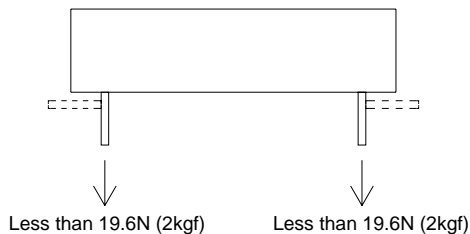

Fig.6.2 Stress onto the pins
- When too much stress is applied on the input/output pins of the unit, the internal connection may be weakened. As below Fig. 6.2, avoid applying stress of more than 19.6N (2kgf) vertically.